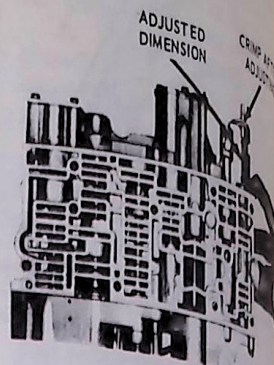

FIG. 10 Throttle Valve Adjustment
2. Accurately measure the distance from the end of the valve to the end of the adjusting screw (Fig. 10).